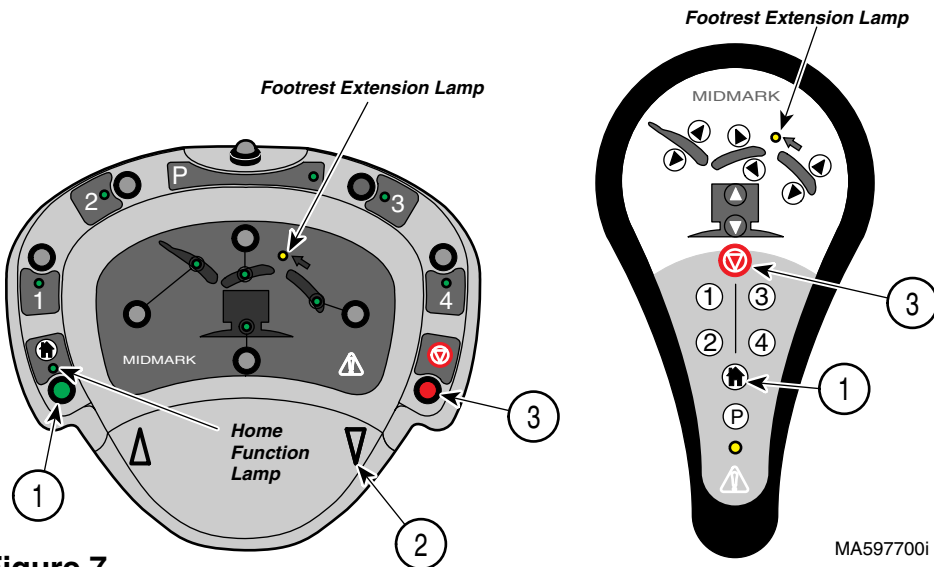

Figure 7.
1. Press Home button (1, Figure 7). [*Home function lamp will illuminate*]